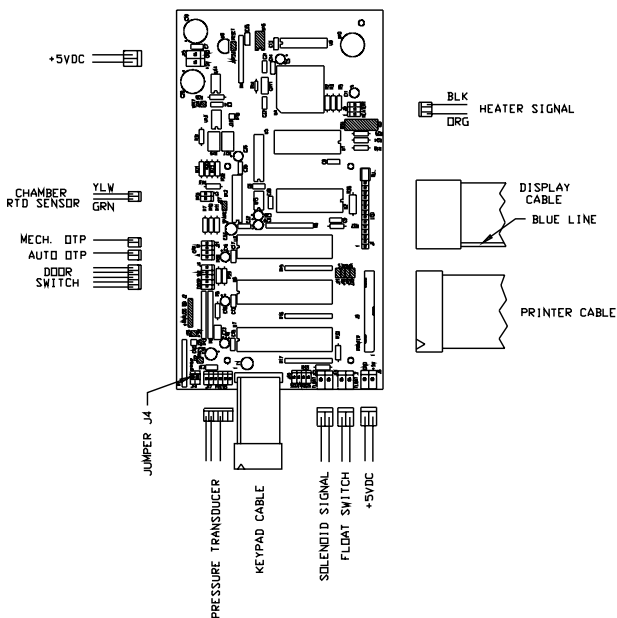

Figure 1
6. Attach all wiring to the new main PC board, taking care to attach it to the new main PC board in the same position from which you removed it from the old main PC board. *See Figure 1.*